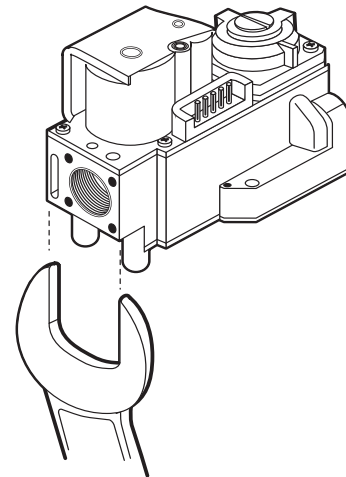

Fig. 4.
- Tighten gas control using the right open end wrench. See fig. 4.